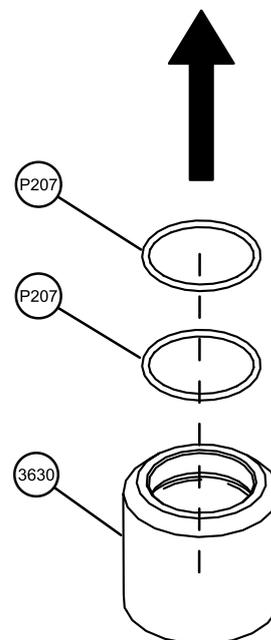

Fig. 10.20
- Fig. 10.20 Remove the O-rings (P207) from the top stack collar (3630)